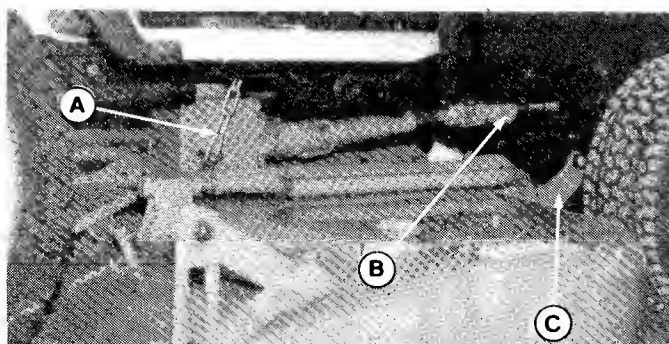

Figure 3A. A. Chain B. Drive Shaft C. Hitch
7. Figure 3A shows mower installed, as viewed from right hand side